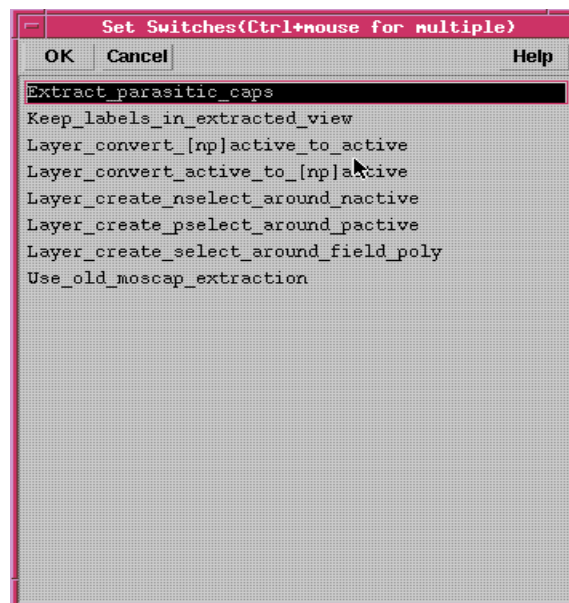

Fig.20. Set switches window
- Select “Set Switches” and a window as shown in Fig 20 will appear.